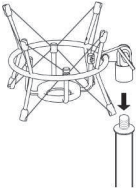

Fig. 4
1. Screw the microphone shock mount AM-60/27 (Oktava) onto robust, stable stand (Fig. 4).